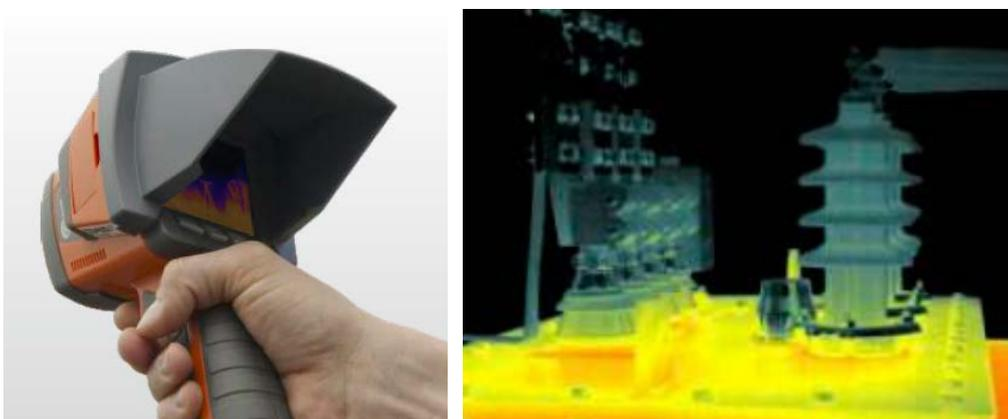

Figure 8 Thermal imager Device
6. Thermal imager Device (see Figure 8)